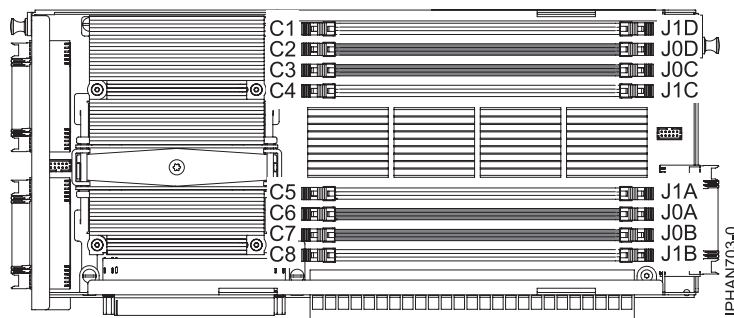

Figure 3. Memory module slot locations in the processor assembly for processor feature 5621
- Each processor assembly has eight memory module slots. See Figure 3 for the memory module slot locations in the processor assembly. The memory modules must be plugged into the slots in the following order: